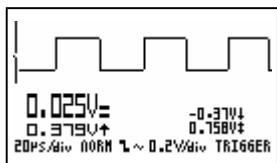

Fig 53
- '**norm**' = normal triggering (*fig 53*)
- '**norm**' = normale triggering (*fig 53*)
- '**norm**' = synchronisation normale (*fig 53*)
- '**norm**' = normale Auslösung (*fig 53*)